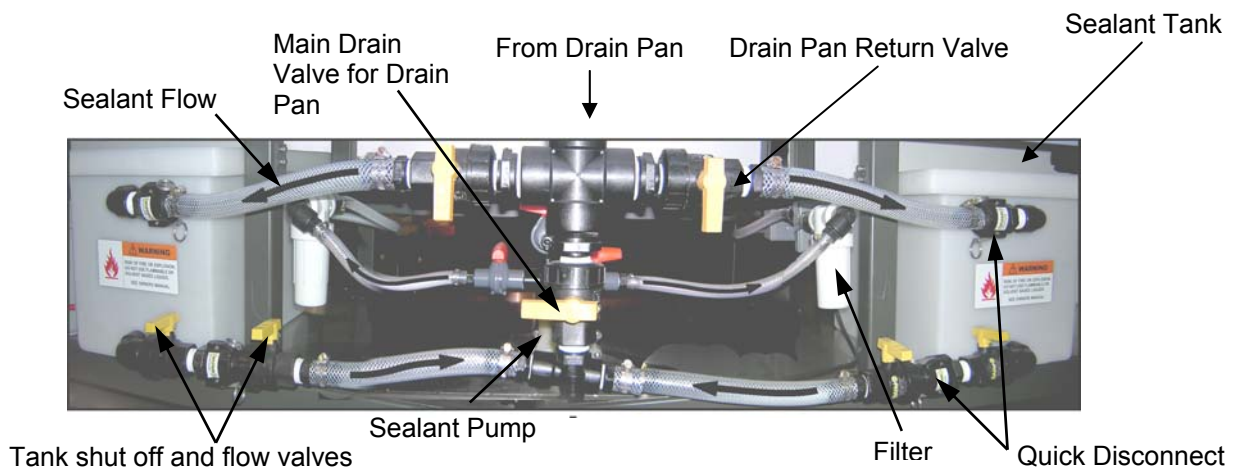

Figure 10: Dual Tank Plumbing System shown
2.13 Sealant Tank (single or dual tank options, dual tank option as shown in Figure 10)